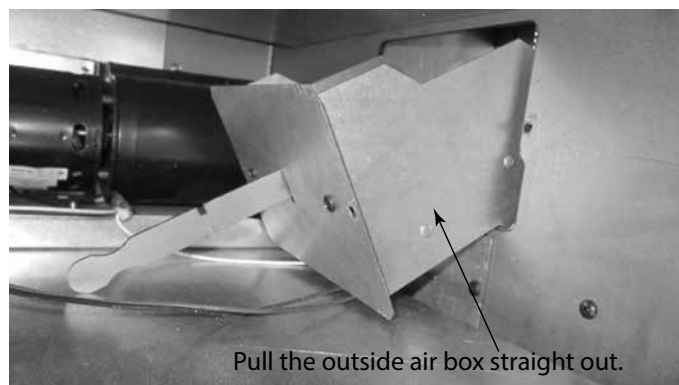

Figure 3.17 Outside Air Box
5. Pull the outside air box straight out. See Figure 3.17.